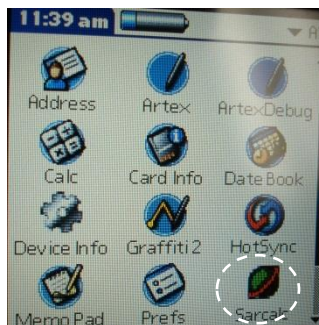

Figure 19: Sarcalc Icon
1. Select the Sarcalc program by tapping the "Sarcalc" icon (Figure 19).